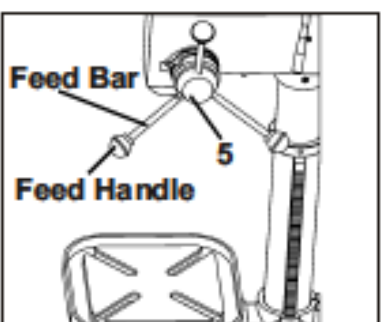

Fig 7
- Thread the Feed Bars in to the Handle Seat(5) and tighten them.
- Install three Feed Handles in to the Feed Bars and tighten them. **(Fig 7)**